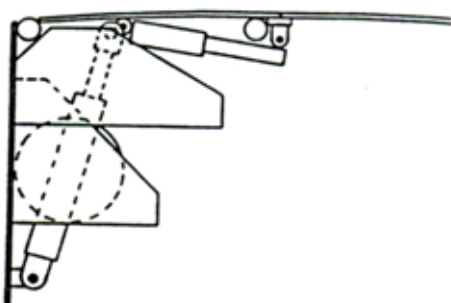

Figure 4
3. Release button. Leveler will lower to transport vehicle bed (Figure 4).